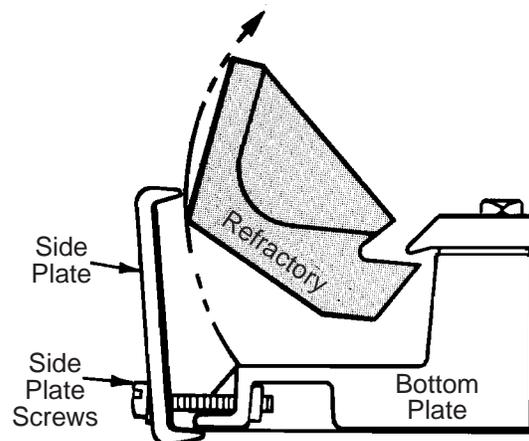

FIGURE 2
2. Tilt side plate back. (Figure 2)
3. Remove refractory in circular path. (Figure 2)